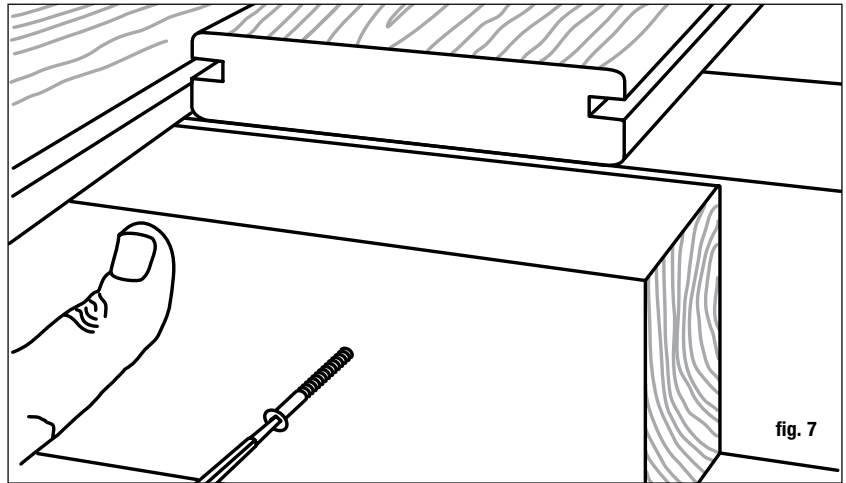
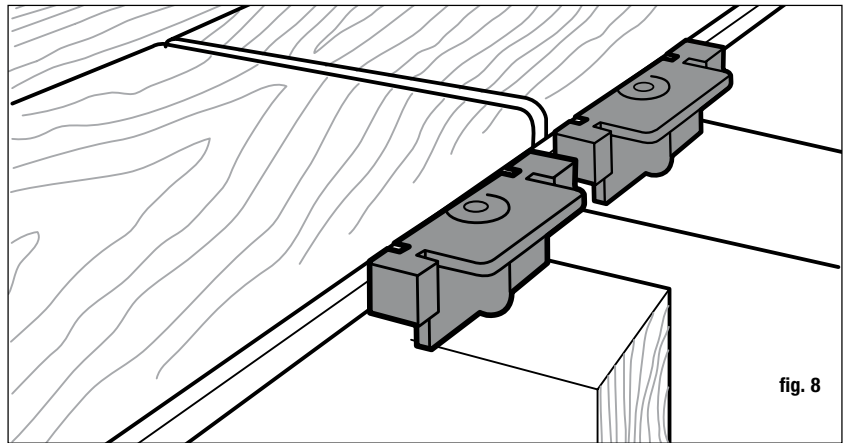

fig. 7
fig. 8
**Step 7** Install one Stowaway fastener at each joist location along the length of the board. For installations where deck boards are butted end-to-end at the joist, an 8" block must be added using a Stowaway hidden fastener clip at the end of each board (fig. 7 and fig. 8). Be sure to gap the boards as previously described.